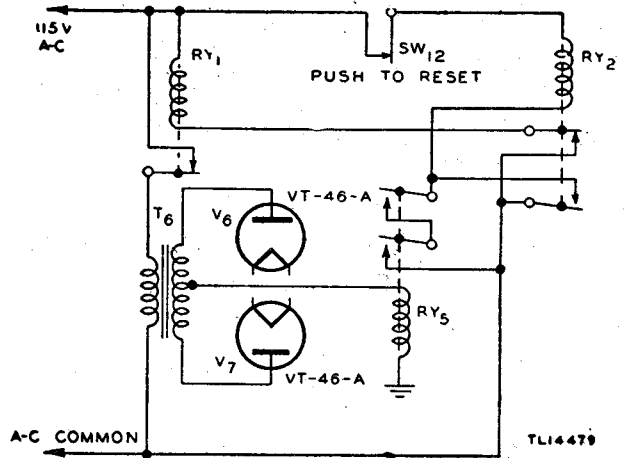

Figure 72. OVERLOAD RESET switch—functional diagram.
h. OVERLOAD RESET SWITCH SW12 (fig. 72). Switch SW12 is a momentary push-button type of switch located on the front panel of the transmitter. The switch is normally closed; but when pressed, it interrupts the energizing current through the coil of overload reset relay RY2, which in turn operates
d. **OVERLOAD PROTECTION RELAYS  $RY_2$  AND  $RY_5$**  (fig. 72). Relays  $RY_2$  and  $RY_5$  are located on the lower deck of the transmitter. They protect high-voltage rectifier tubes  $V_6$  and  $V_7$  from damage due to heavy current surges or serious overloads. All current drawn from the high-voltage power supply must pass through the coil of relay  $RY_5$  and is designed to operate the contacts when the current through the coil exceeds approximately 750 ma.